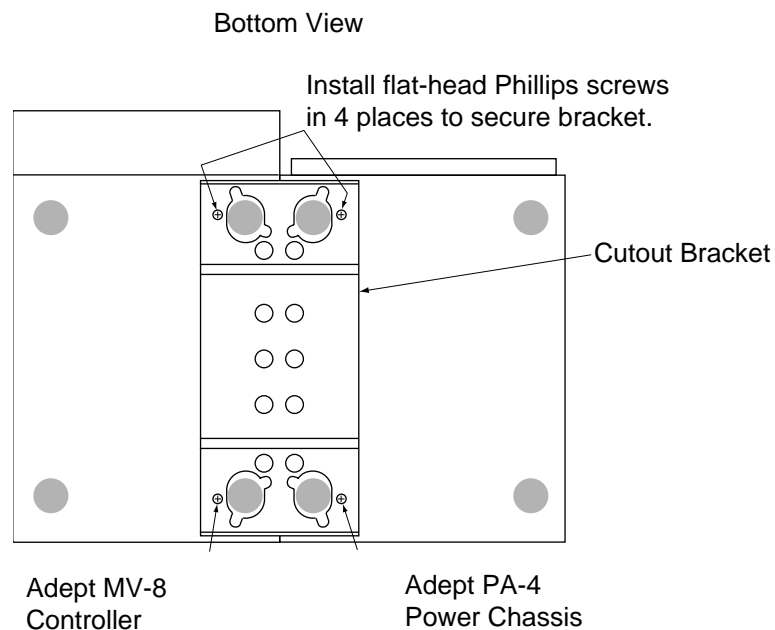

Figure 2-4. Joining the Power Chassis and Controller at the Bottom
3. Place the bracket over the feet of the units as shown in Figure 2-4.
4. Install the four M4 x 8 flat head screws in the holes indicated in Figure 2-4 to secure the brackets.